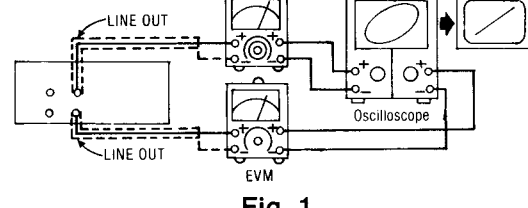

Fig. 1
1. Test equipment connection is shown in Fig. 1.